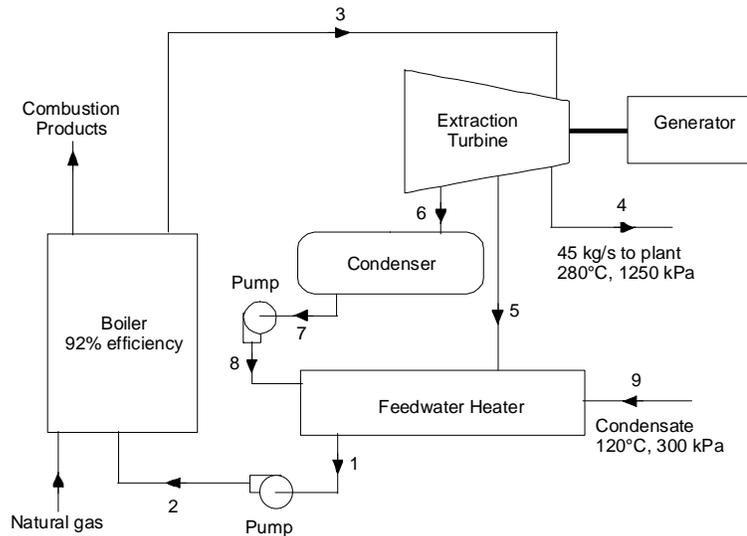

Figure 8.A-14 Steam plant with a double-extraction turbine
8.A-14 Figure 8.A-14 shows a Rankine steam cycle in which a double-extraction turbine is used to supply both power and process steam for an industrial plant. The energy source for the boiler is natural gas which has a heating value of 50,000 kJ/kg. Thermodynamic data for all points in the cycle are provided in Table 8.A-14. The process steam is supplied at state 4 at 1250 kPa, 280°C at 45 kg/s. All of the process steam is returned as condensate at state 9 and mixed with the condensate from the condenser before the combine flow enters the feedwater heater. The surroundings are at 25°C, 1 atm.